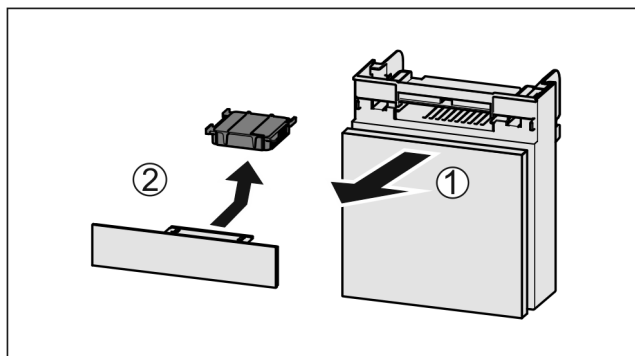

Fig. 116
- Pull out the compartment Fig. 116 (1).
- Remove the carbon filter Fig. 116 (2).